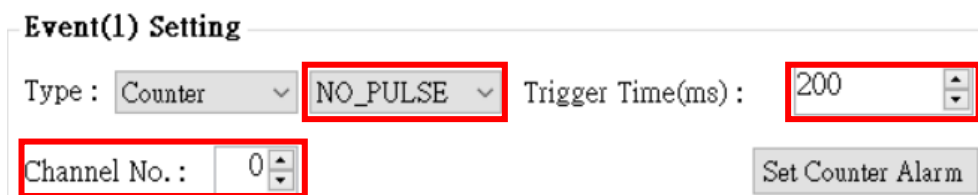

Figure 6.10.24
F. Select the trigger condition as "NO_PULSE", Trigger Time "200ms" and Channel No. "0", as shown in Figure 6.10.24